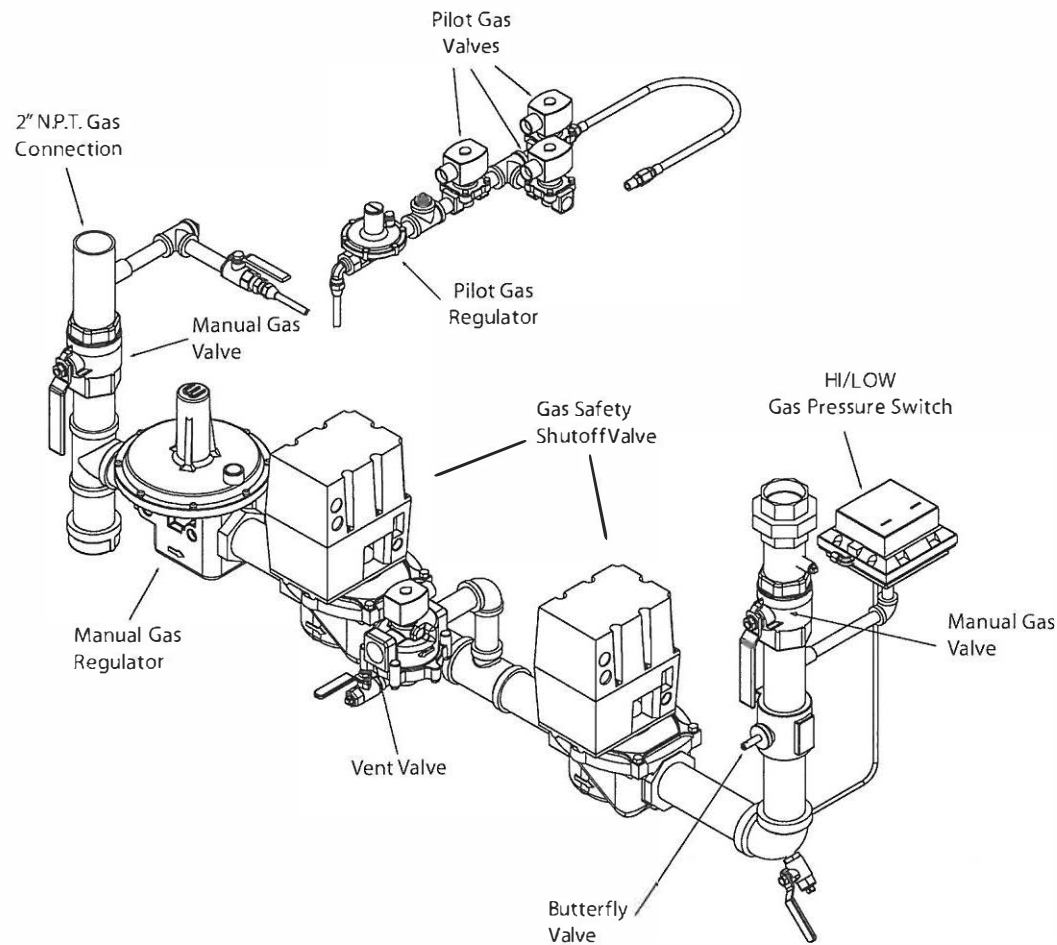

FIGURE 4 - TYPICAL GAS-FIRED MODULATED NFPA FUEL TRAIN
7. On gas-fired units with NFPA valve trains, ensure the vent valve is piped to atmosphere per local code. See Figure 4.